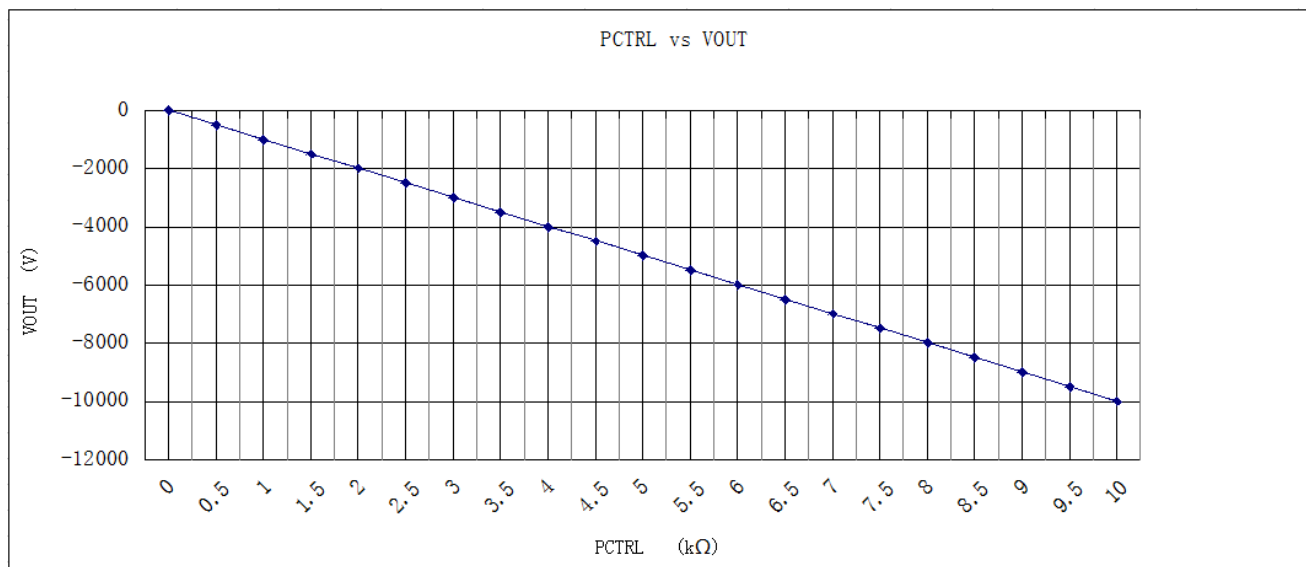

Figure 4. PCTRL vs. VOUT
5. HV adjustment: 10-turn potentiometer for adjusting output voltage. Rotate it clockwise to increase the output voltage, and the potentiometer resistance = the corresponding scale × 10Ω. For example, as Figure 4 shows, when the scale is 10, and the frame above the scale shows 1 (1kΩ), then the resistance = $10 \times 10\Omega + 1k\Omega = 1.1k\Omega$, and the like.